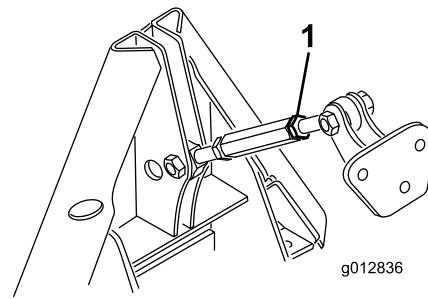

Figure 30
- Loosen the jam nuts on the threaded link (Figure 30).
- Rotate the hex tube until the desired angle is attained (Figure 30).
- Tighten the jam nut to lock the adjustment (Figure 30).